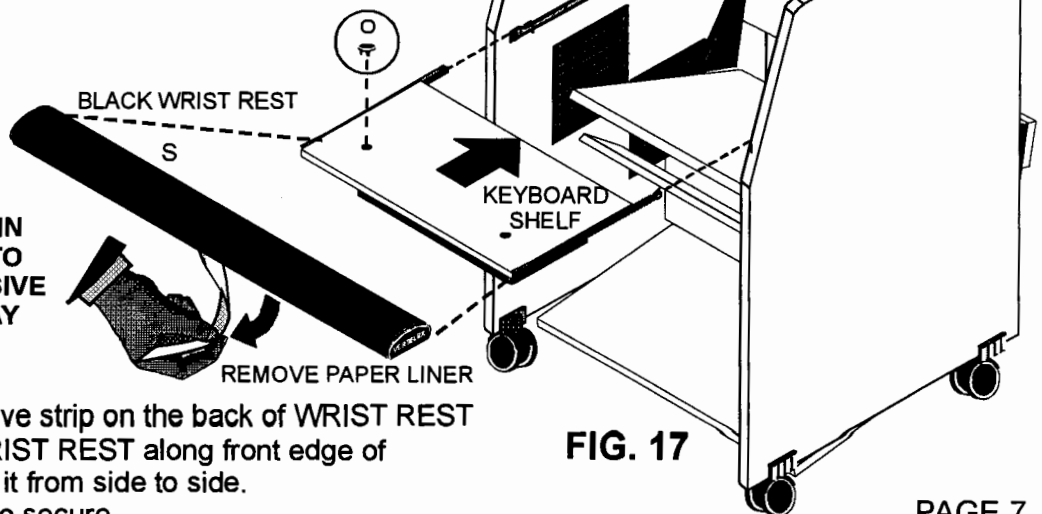

FIG. 17
Align RAILS on KEYBOARD SHELF with set of RAILS on cabinet SIDES. FIG. 17 Install KEYBOARD SHELF. Insert (1) COVER CAP (O) into unused hole on KEYBOARD SHELF.
Remove paper liner from adhesive strip on the back of WRIST REST (S). FIG. 17 Carefully align WRIST REST along front edge of KEYBOARD SHELF - centering it from side to side. Press WRIST REST onto shelf to secure.